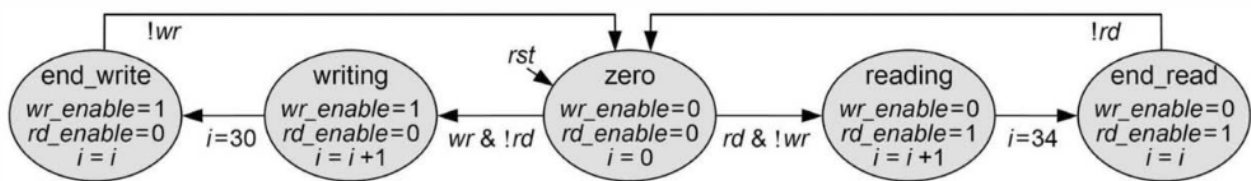

Figure 5: Pointer  $i$  implemented using a conventional recursive FSM
4. To implement this kind of protocol, a good way is to use a pointer, which in this case means it is the "step" in the read/write process. And to generate this pointer, we can use an FSM like fig. 5. Choose your weapon, and describe a VHDL component creating the interface to the Maxim ADC.